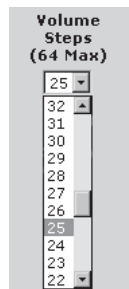

Figure 6-16— Volume drop box
3. Click on the Volume Steps (64 Max) drop box. A drop down scroll box appears (figure 6-16).